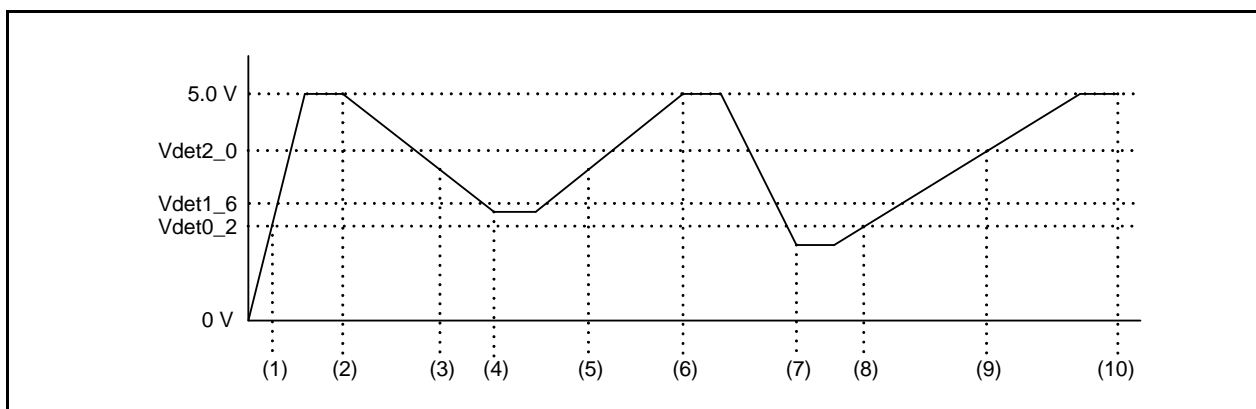

Figure 3.2 Voltage Transition
Table 3.1 lists the operations when the voltage transitions as shown in Figure 3.2.
Table 3.1 Operations for (1) to (10) in Figure 3.2